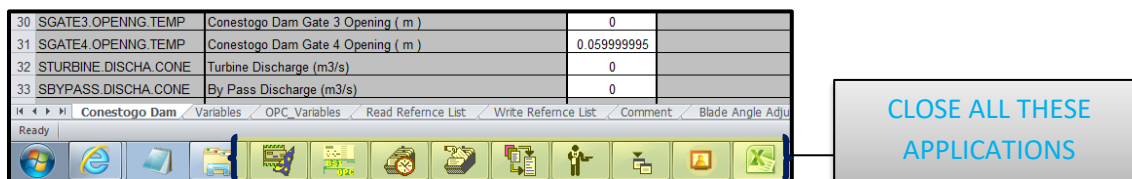

Fig 1
3. If that doesn't work, close the excel workbook and all the data collection applications by right clicking on the icon and close it (*Fig 1*).